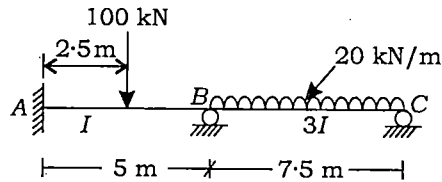

Fig. 4
2. (a) Determine the support moments for the continuous beam using slope-deflection method. The relative values of moment of inertia is given in the Fig. 4.  $E$  is constant :